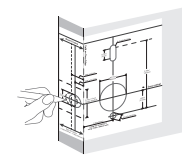

Figure 2a
- Mark center hole on door edge through guidance on template for 0.94" (24mm) deadbolt (Figure 2a).